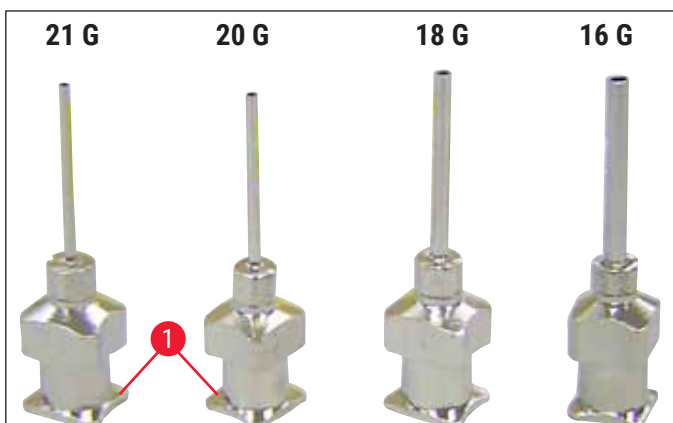

Fig. 14
- Select the dispenser needle to be used for coverslipping from the scope of delivery (→ Fig. 14).